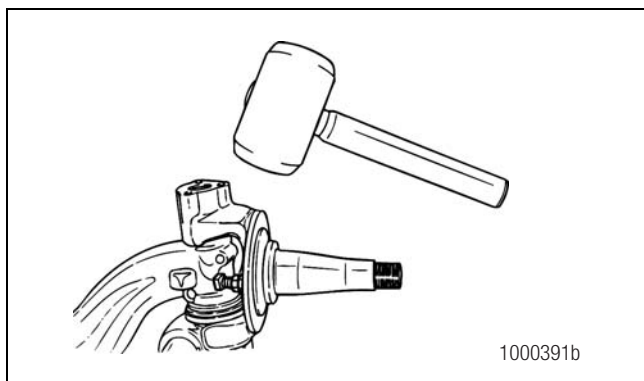

Figure 6.23
1. Strike the boss of the knuckle with a rubber mallet to move the parts into position. Figure 6.23.